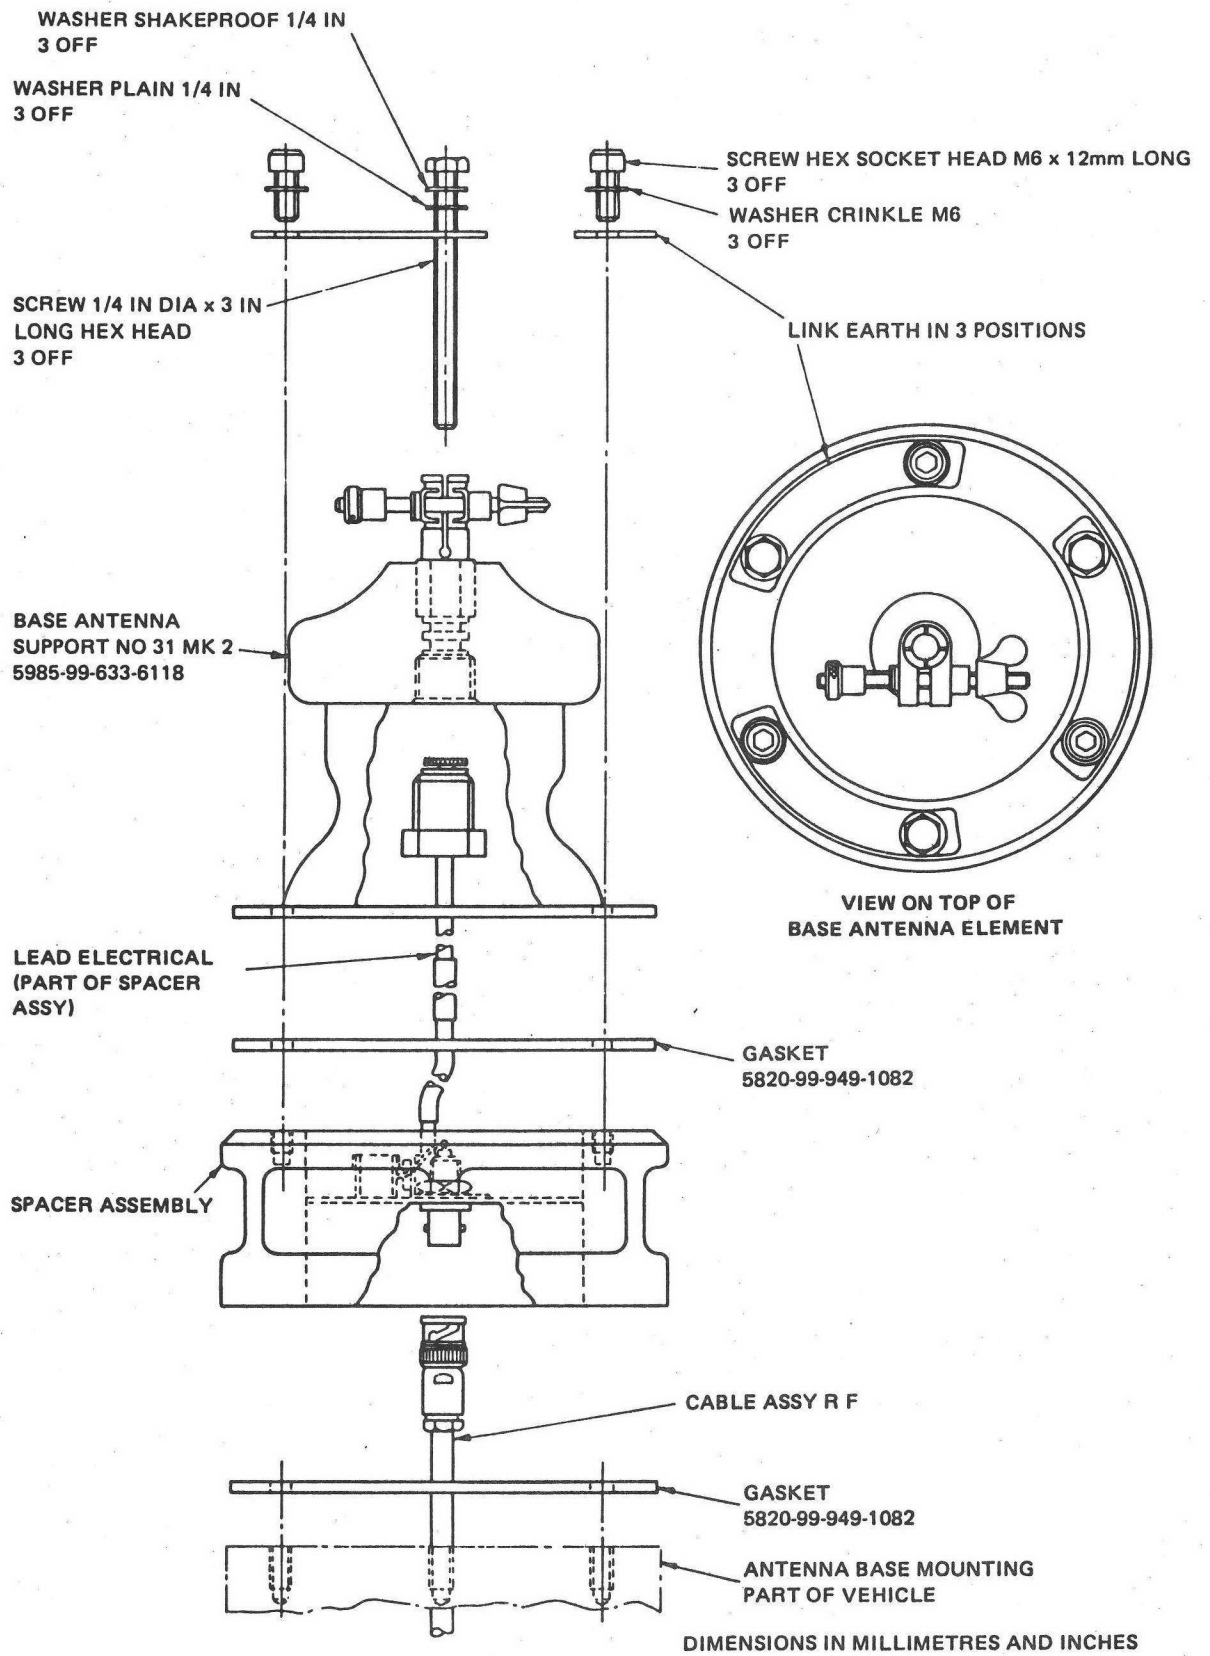

Fig 7 Antenna base assembly diagram
Fit the base antenna element (4) to the forward r.h.s. exterior ('A' set position) as per Fig 7 and Table 2, operation 5.
13.5.4 Assemble the base antenna element (4) in a similar manner as shown in Fig 7 and connect the co-axial BNC socket of cable assembly (14) to the base. Secure the assembly in position using three bolts (21) and washers (32 and 36).